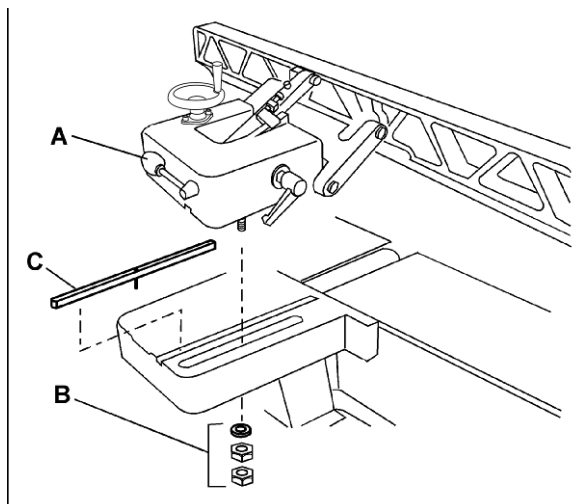

Figure 46
1. Release the fence locking handle (A, Figure 46) and remove the two hex nuts and washer (B, Figure 46) holding the fence to the slide bracket. Remove the fence assembly.
2. Remove the key (C, Figure 46) from the fence support. If necessary, use a flat head screwdriver to pry up one end of the key.
3. Replace the fence assembly at the desired angle across the cutterhead. See Figure 47. Secure the fence to the slide bracket with the hex nuts and washer (B, Figure 46), then tighten the fence locking handle (A, Figure 46).
NOTE: When placing the fence assembly back into normal position, be sure to first install the key (C, Figure 46) into its slot.